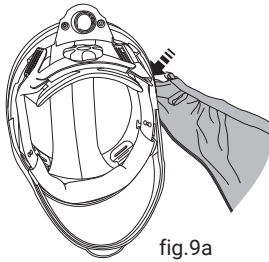
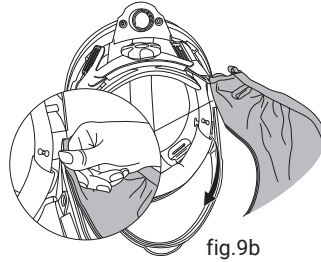
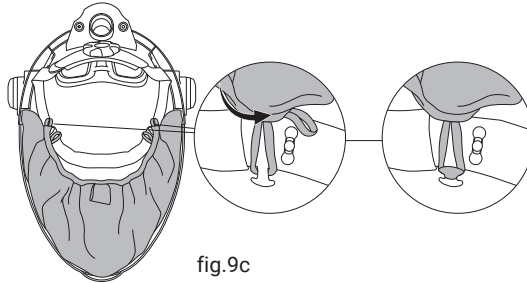

fig.9a
fig.9b
fig.9c
- Fix the edge groove of the face seal to the edge of the outside frame of the face shield (See fig.9a), and press to the arrow direction to complete the installation (See fig.9b), and hang the inner and outer elastic bands on both sides to the "T" hook to fix (See fig.9c).